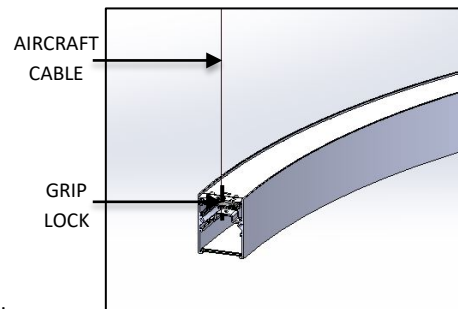

FIG. 17 – FIXTURE INSTALLATION
14. Raise the first section of the fixture with multiple people and feed the AIRCRAFT CABLES into the GRIPLOCKS by pressing the plunger of the GRIPLOCK and insert the AIRCRAFT CABLE into the body of the GRIPLOCK and adjust fixture drop to desired height as shown in FIG. 17.